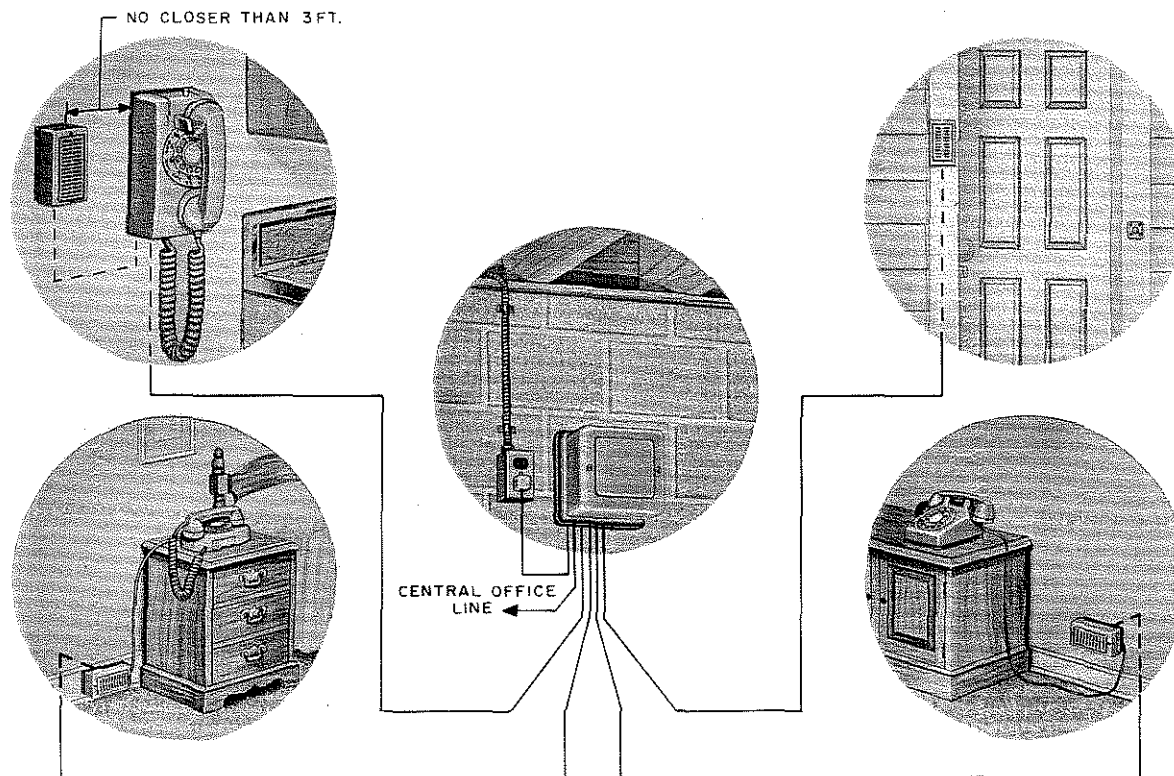

Fig. 5 — 1A Home Interphone
4.01 The 1A home interphone is limited to five stations and two door-answering units. Sample arrangements are shown in Fig. 5.